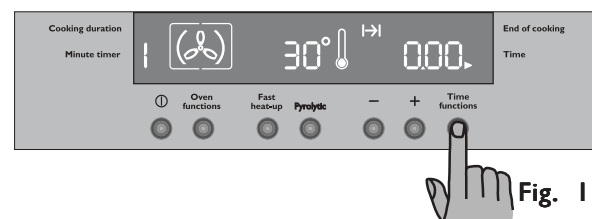

Fig. 11
- 2) Press Time functions button to select the "Cooking Duration" function (Fig. 11). The "Cooking Duration" symbol  will flash and the control panel will display "0.00".